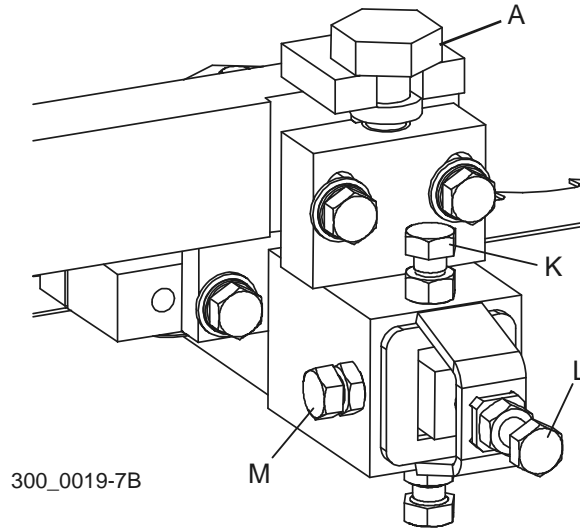

FIG. 5-31
See Figure 5-31. To adjust, loosen one bolt (K) and bolt (M). Slide the blade guide assembly in or out as necessary. Loosen the jam nut on bolt (L) and adjust the bolt until it